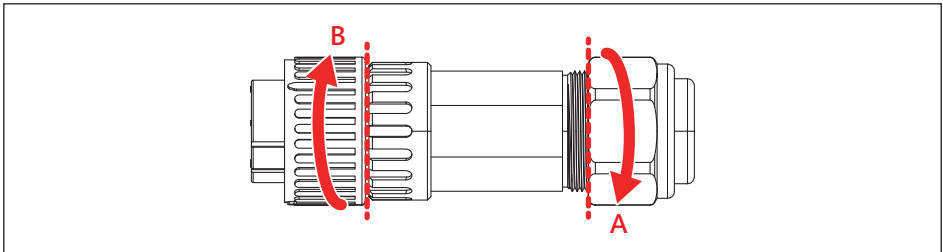

Figure 3-9 : Assemble the AC plug
1. The packing has a AC Plug, please rotate it to release part A & B. **(Figure 3-9)**